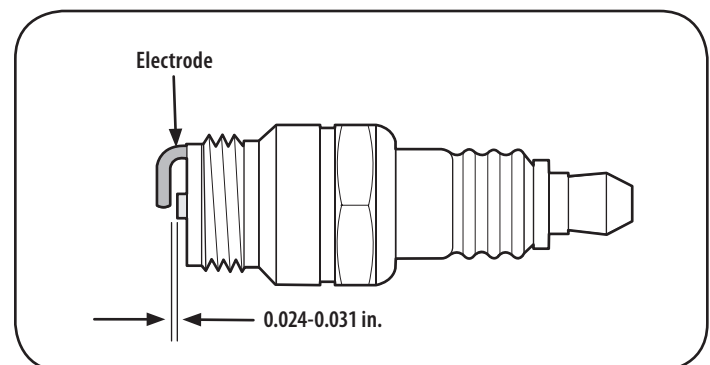

Figure 36
3. Measure the plug gap with a feeler gauge. Correct as necessary by bending side electrode. See Figure 36. The gap should be set to between 0.024-0.031 in.